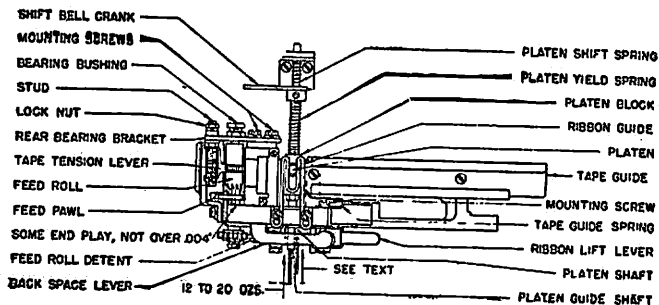

Fig. 35
4.55 Feed roll shall rotate freely and have end play not to exceed .004", when its detent, feed pawl and tape tension lever are held clear of the roll. See Fig. 35.
**4.78 Platen shift spring** shall exert a pressure of min. 5 ozs., max. 7-1/2 ozs., measured with the platen in the "letters" position by pressing toward the rear on the front end of the platen shaft until the platen assembly extension starts to move away from the rear shoulder of the shift latch. See Fig. 35.
**4.79 Platen yield spring** shall exert a pressure of min. 12 ozs., max. 20 ozs., measured on the front end of the platen guide shaft by pressing toward the rear until the platen block starts to move on the platen shaft when the platen shaft is held in the extreme rear position. See Fig. 35.